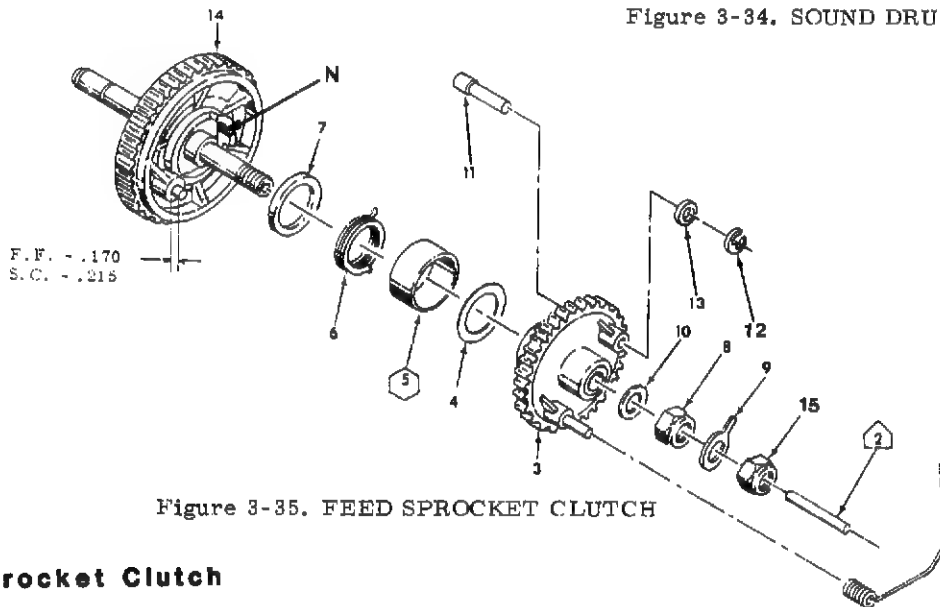
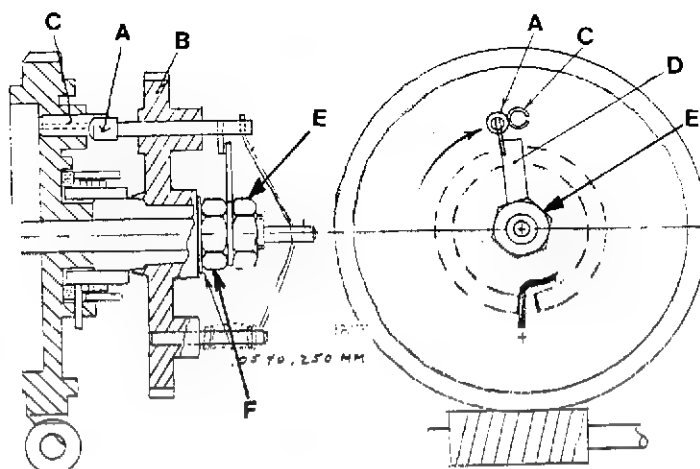

Figure 3-35. FEED SPROCKET CLUTCH
Figure 3-36. FEED SPROCKET CLUTCH ADJUSTMENT
1. Lubricate the Spring (6) with 009 Lubricant (39479-P7) (Figure 3-35).
2. Assemble the Lubricating Pad (7) and the Clutch Spring (6) making sure the tail of the Spring (6) is trapped in the Notch (N) of Gear (14).
3. Assemble Pin (11) to the Gear and Hub Assembly (3) and assemble the remaining parts on the shaft of Gear (14) in the order shown.
4. Adjust the Nut (8) to obtain .002" to .010" end play on the Gear and Hub Assembly (3).
6. Assemble Stop (9) and Nut (15) and tighten the Nut (15) just enough to hold the Stop in place.
7. Depress Pin (A) and turn Clutch Gear (B) clockwise until Pin (A) touches Pin (C). HOLD GEAR (B) — DO NOT ALLOW IT TO SPRING BACK. (Figure 3-36)
8. Position the Stop (D) so that the corner or edge is just over the small cross pin of Pin (A) as shown.
9. Hold Nut (F) to prevent it from turning and tighten Nut (E) being careful not to allow Stop (D) to turn during this tightening process.
10. Recheck the end play of the Gear and Hub Assembly (B) for .002" to .010". Repeat Steps 6 through 9 until the Stop (D) is positioned properly and the end play is correct.
11. Lubricate the outside diameter of Pin (2) with Teresso Instrument Oil (39479-P8) and insert the pin in the hole in the end of the shaft of Gear (14). (Figure 3-35)
12. Insert the Spring (1) through the hole in the end of Pin (2) and then into the hole in the end of Pin (11).
13. Push the Spring (1) onto the Roll Pin protruding from the Gear and Hub Assembly (3). (On Fast Forward models, be sure the cross pin in Pin (11) is pointing toward the shaft of Gear (14).